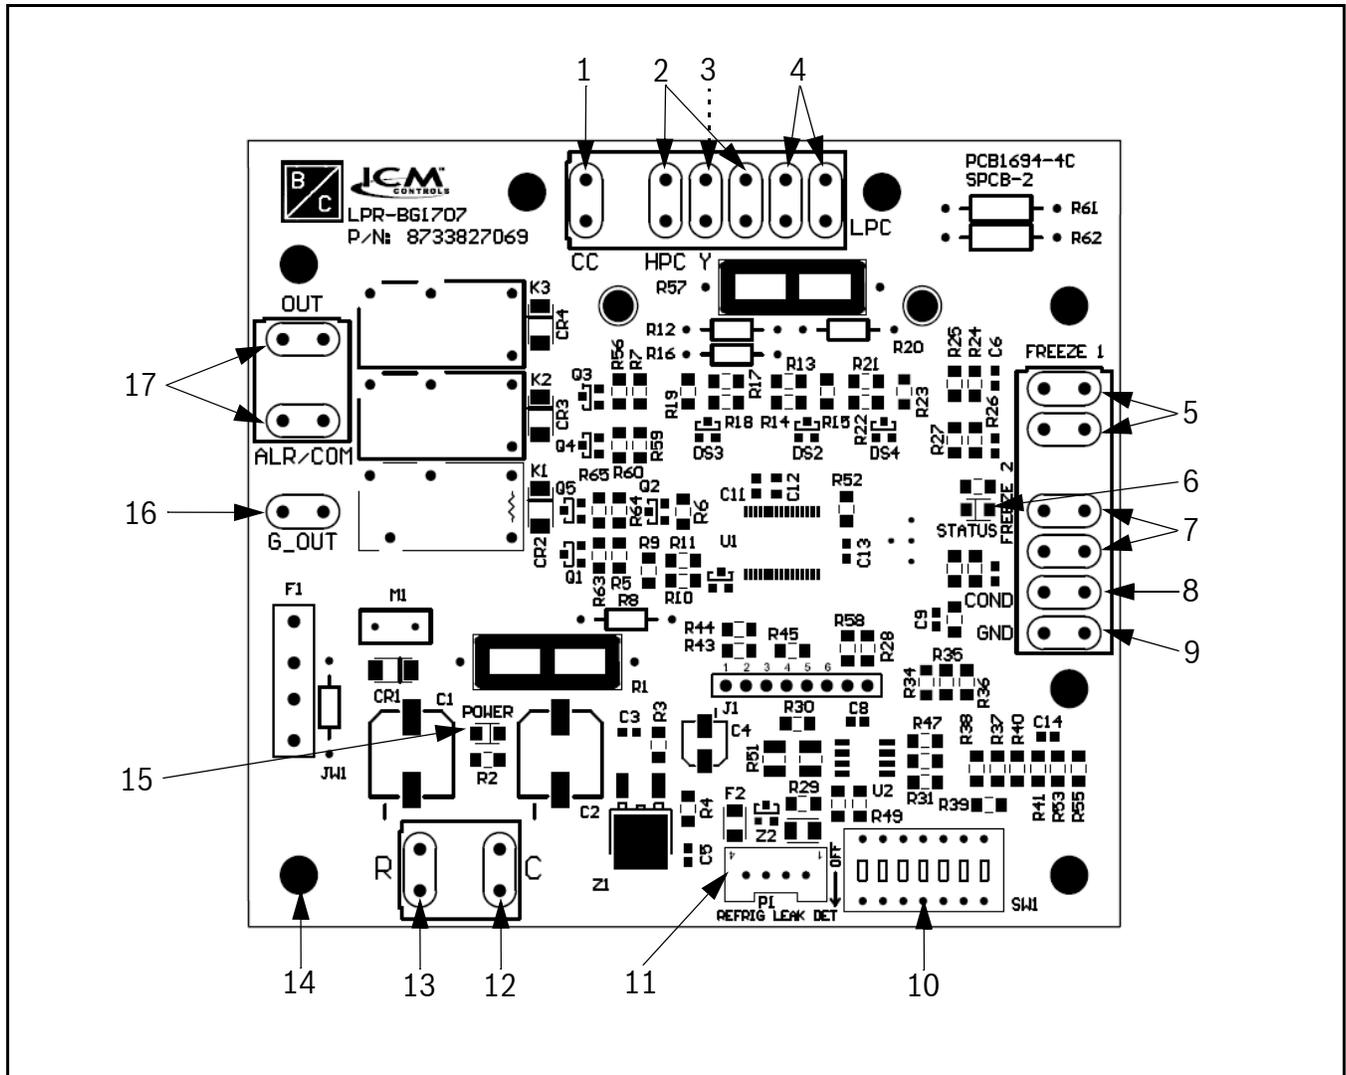
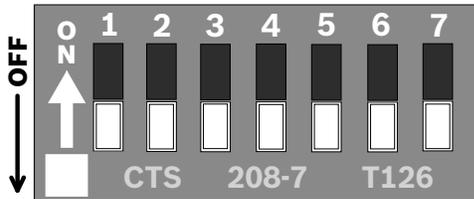

Fig. 17 UPM Controller Board
Fig. 20 UPM Settings DIP Switch (SW1)
- Waterside freeze protection sensor (FREEZE 1), mounted close to condensing water coil (→Refer to Fig. 18), monitors refrigerant temperature between condensing water coil and thermal expansion valve. If temperature drops below or remains at freeze limit trip for 120 seconds, the controller will shut down the compressor and enter into a soft-lockout condition. The default freeze limit trip is 25°F; however, this can be changed by flipping DIP switch SW1. (→Refer to Fig. 17, item [10].)(→Refer to Fig. 20.)
- The condensate overflow protection sensor is located in the drain pan of the unit and connected to the “COND” terminal on the UPM board. (→Refer to Fig. 17, item [8].)
- **TEST DIP SWITCH:** The DIP switch position “4” controls the Test function. When it is set to “ON,” it will reduce all time delays settings to 10 seconds during troubleshooting or verification of unit operation. (→Refer to Fig. 17, item [10]) (→Refer to Fig. 20)
- **MALFUNCTION OUTPUT:** Alarm output is Normally Open (NO) dry contact. If pulse is selected the alarm output will be pulsed. The fault output will depend on the DIP switch setting for "ALARM." (→Refer to Fig. 17, item [10]) (→Refer to Fig. 20.) If DIP switch position “3” is set to “ON,” a constant signal will be produced to indicate a fault has occurred and the unit requires inspection to determine the type of fault. If it is set to “OFF,” a pulse signal is produced and a fault code is detected by a remote device indicating the fault. (→For blink code explanation, see Table 9.) The remote device must have a malfunction detection capability when the UPM board is set to "PULSE."
- FREEZE SENSOR:** The default setting for the freeze limit trip is 25°F (FREEZE 1); however, this can be changed to 15°F by flipping the DIP switch position “5” (→Refer to Fig. 17, item [10]) (→Refer to Fig. 20), freeze limit trip should only be changed to 15°F when a closed loop system with appropriate antifreeze mixture is used. **Since Freeze Sensor 2 is dedicated to monitor the load side coil it is recommended to leave the factory default setting on the board.** The UPM controller will constantly monitor the refrigerant temperature with the sensor (FREEZE 1) mounted close to the condensing water coil between the thermal expansion valve and water coil. If temperature drops below or remains at the freeze-limit trip for 120 seconds, the controller will shut the compressor down and enter into a soft-lockout condition. Both the status LED and the alarm contact will be active. The status LED will be active, blinking the fault code. The LED will flash (three times) the code associated with this alarm condition. If this alarm occurs two times (or four if DIP switch position “1” is set to “ON”) within an hour the UPM controller will enter into a hard-lockout condition. It will constantly monitor the refrigerant temperature with the sensor (FREEZE 2) mounted close to the air coil between the thermal expansion valve and air coil as shown in Fig. 19. If temperature drops below or remains at the freeze limit trip for 120 seconds, the controller will shut the compressor down and enter into a soft-lockout condition. Both the status LED and the alarm contact will be active. The
- To clear a hard lockout when the DIP switch position “2” is set to “OFF” (Y), power can be cycled OFF then back ON either at the unit’s thermostat or at the circuit breaker.
- To clear a hard lockout when the DIP switch position “2” is set to “ON” (R), power must be cycled OFF then back ON at the circuit breaker (not at the thermostat). (→Refer to Fig. 17, item [10]) (→Refer to Fig. 20)
- PUMP DIP SWITCH:** When DIP switch position “7” is set to “ON” and no Y call has been received in the past 8 hours, the compressor will have a delay of 30 seconds to allow a loop pump to circulate water before compressor starts. (→Refer to Fig. 17, item [10]) (→Refer to Fig. 20)